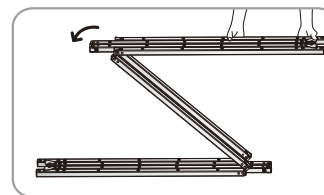

Figure 37
7. Unfasten the horizontal sides of main frame so that the main frame is fully folded (Figure 37 - 38).